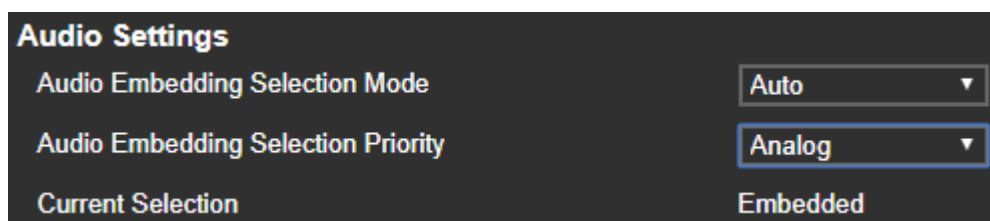

Figure 12: TP-594Txx Video and Audio Page – Auto Priority Audio Settings
3. Under Audio Settings (Figure 12):